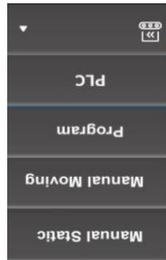

Figure 37. Mode Selection Dropdown List
- 2) Select a mode on the list to activate that mode. (Figure 37.)